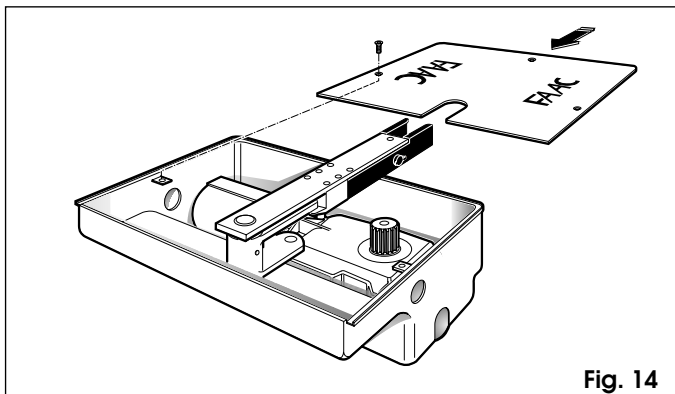

Fig. 14
- 6) Fasten the box cover by means of the screws supplied (fig. 14).